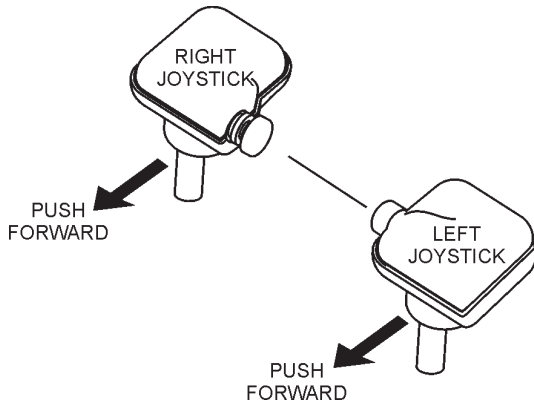

Figure 14. Joystick Control Forward Direction
2. Push both the left and right joysticks forward (Figure 14).